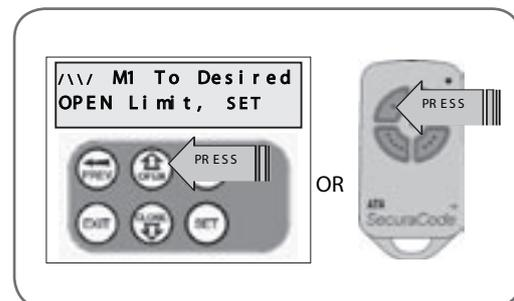

fig 16
1. Press OPEN to move gate to the desired OPEN LIMIT (or press button 1 on transmitter) (**Fig. 16**).